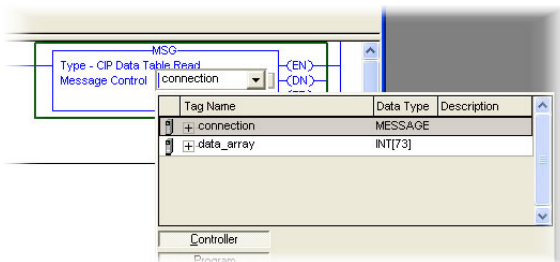

Figure 105: MSG Instruction Tag Assignment
- Edit the "Message Control" field on the MSG instruction to use the previously-created "connection" tag. Refer to Figure 105.